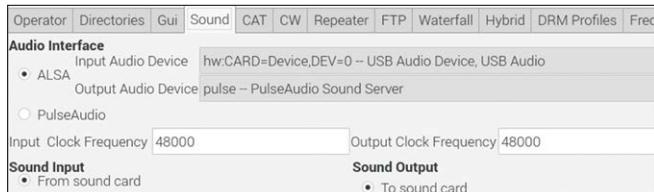

Figure 25.38: Configure the QSSTV software.
- Configure the QSSTV software to receive data from the USB port (Figure 25.38) and click **OK**.